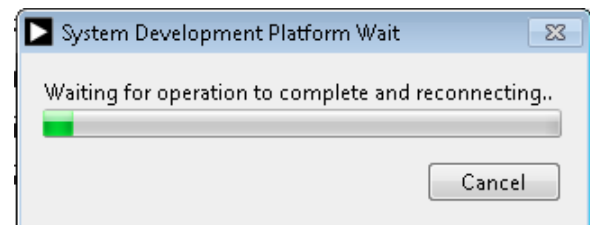
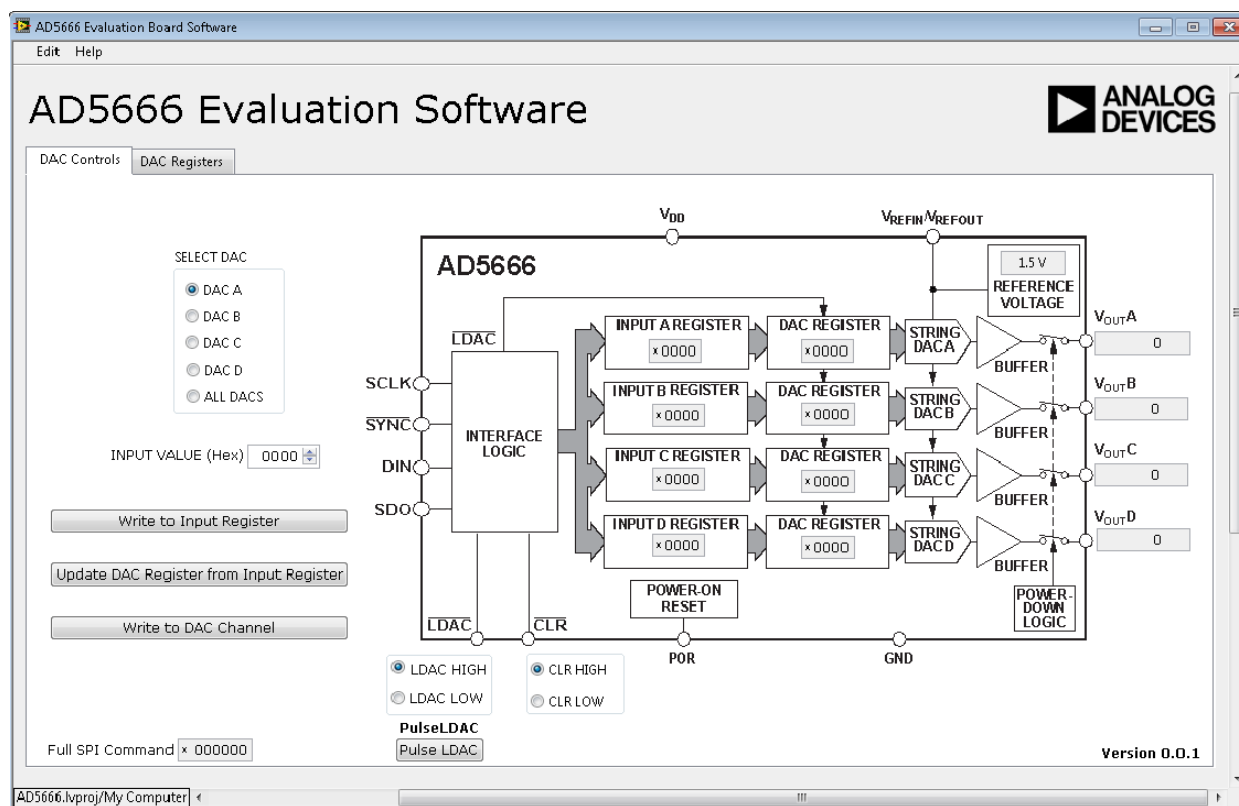

Figure 4. System Development Platform Wait Window
Figure 5. AD5666 Evaluation Board Main Window, DAC Controls Tab
4. When the SDP board is connected, a wait window is displayed briefly (see Figure 4), and then the main window of the AD5666 evaluation software opens, as shown in Figure 5.
The AD5666 main window opens, as shown in Figure 5.
The **DAC Controls** tab (see Figure 5) allows you to view the input register, DAC register, and output voltage (V_{OUTA} to V_{OUTD}). On the left side of the window, you can type a hexadecimal value into the **INPUT VALUE (Hex)** box to be written to the input and/or DAC registers as follows: